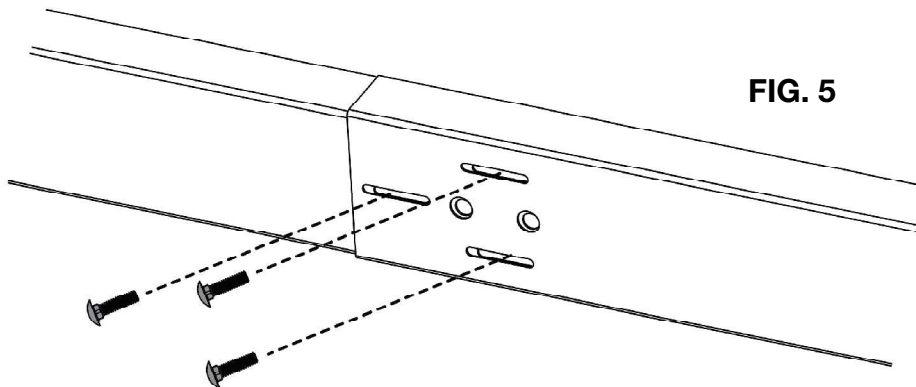

FIG. 5
2. Insert the 3 supplied bolts (Type 2) through the 3 slots (FIG. 5).